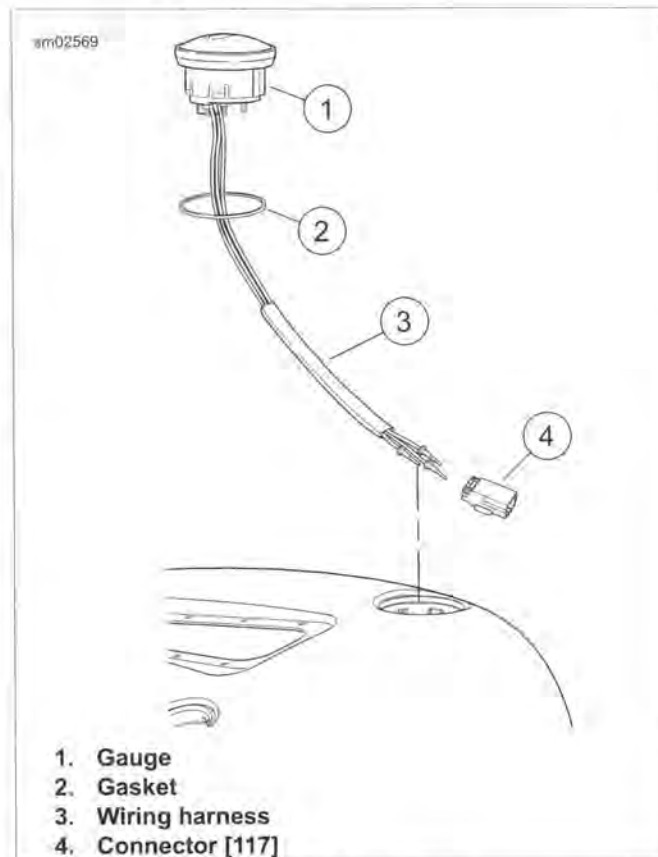

Figure 7-63. Fuel Gauge
4. See Figure 7-63. Detach terminals from connector (4).